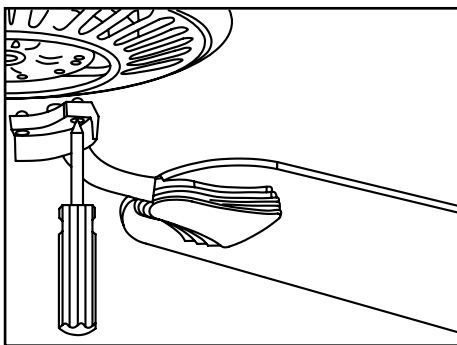

Figure 14
3. Fasten the blade assembly to the motor by inserting the alignment post into the slot on the bottom of the motor and tightening the motor screws. Please note that the motor screws are pre-attached into the blade bracket (Figure 14).